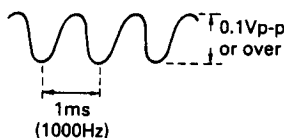

Figure 47.
2. Monitoring AB pin ⑫ with an oscilloscope (internal trigger), check that the requirements given in Figure 47 are met.